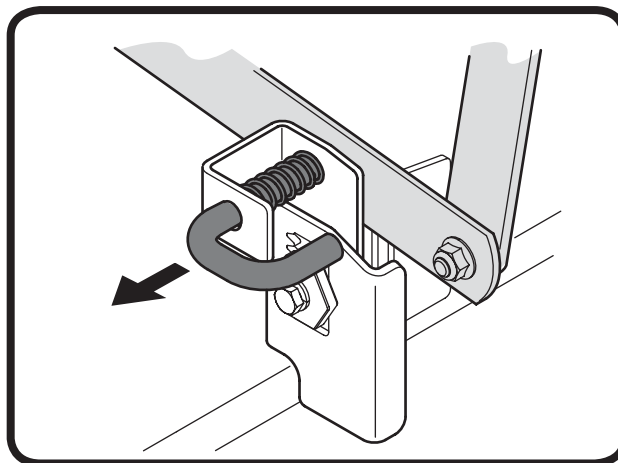

Figure 8.2
8. Pull the deck support pin outward to release the deck from the lift link on both sides of the deck. See Figure 8.2.